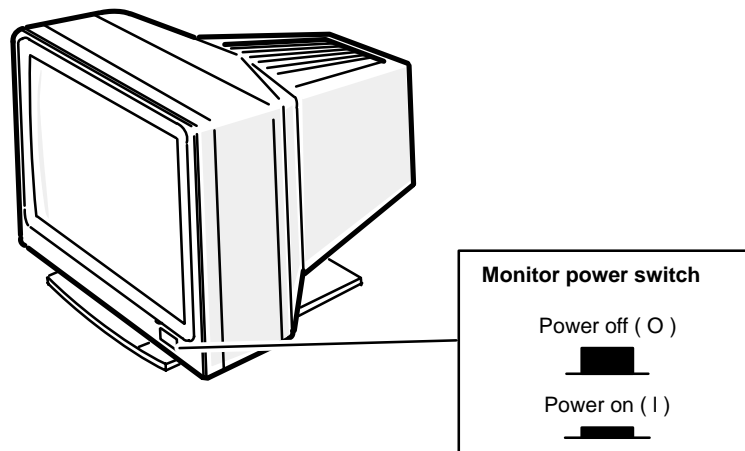

Figure 2-2 Graphic Monitor Power Switch
1. Place the monitor on top of your work surface. Make sure that the power switches for both the computer unit and the monitor are off, as shown in Figure 2-2.